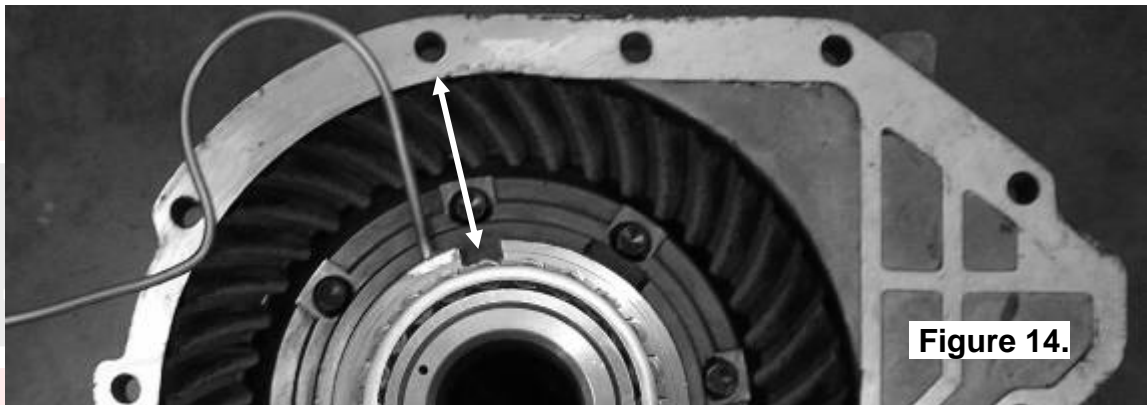

Figure 14.
- Rotate the seal housing until the notch is facing the housing bolt hole as shown in figure 14.
- Without using sharp, jagged tools such as pliers (your hands are the best tool for this job), gently bend the seal housing tube into the hook shaped profile shown in figure 14.